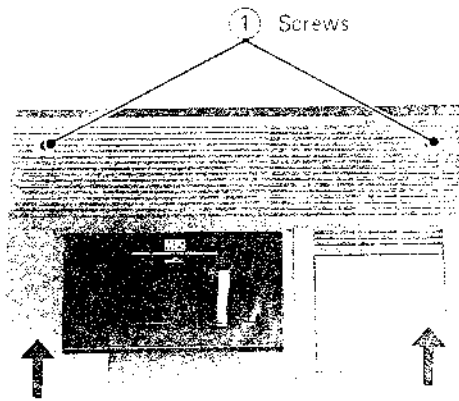

Fig. 3-1
1. Take out 2 screws (1) shown in Fig. 3-1, then slide the cover rearward to remove.